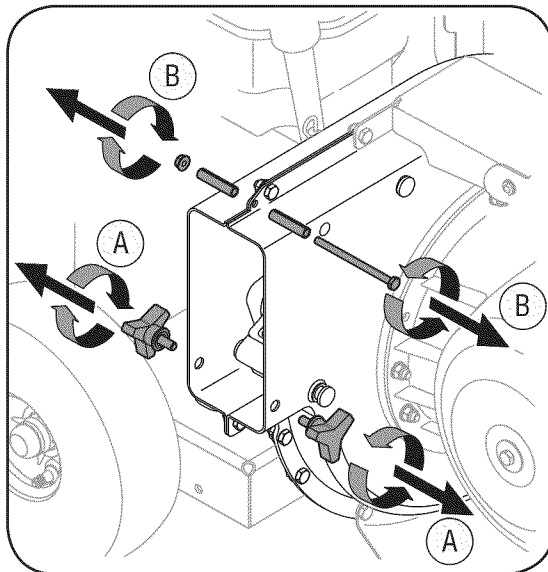

Figure 3
- Remove the hex lock nut, spacers, and hex bolt from the top of the impeller housing. See Figure 3.